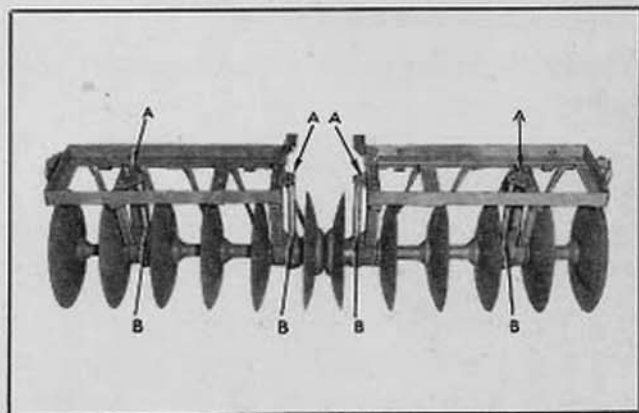
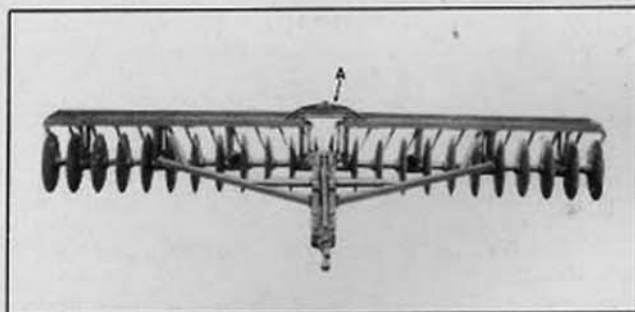

Fig. 11
Fig. 15
2. Remove triangular plates A-A-A-A and draft pins B-B-B-B. (Fig. 11)
Assembly of the single disc harrow is accomplished in exactly the same manner as shown in Figures 11 and 12. Make sure that the snubber (A) (Fig. 15) is correctly installed and later adjusted under field conditions so that the gangs are level and each disc can penetrate the same depth.